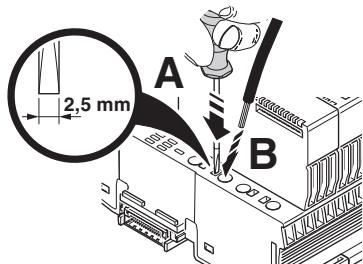

Figure 11-18 Connecting a stranded cable with tools
- Open the spring by pressing the actuation slot with the screwdriver (Figure 11-18, A). Use, for example, a bladed screwdriver with a blade width of 2.5 mm. Phoenix Contact recommends the Szs 0,4x2,5 screwdriver (see Section "Ordering data" on page 138).
- Insert the cable in the terminal point (B).